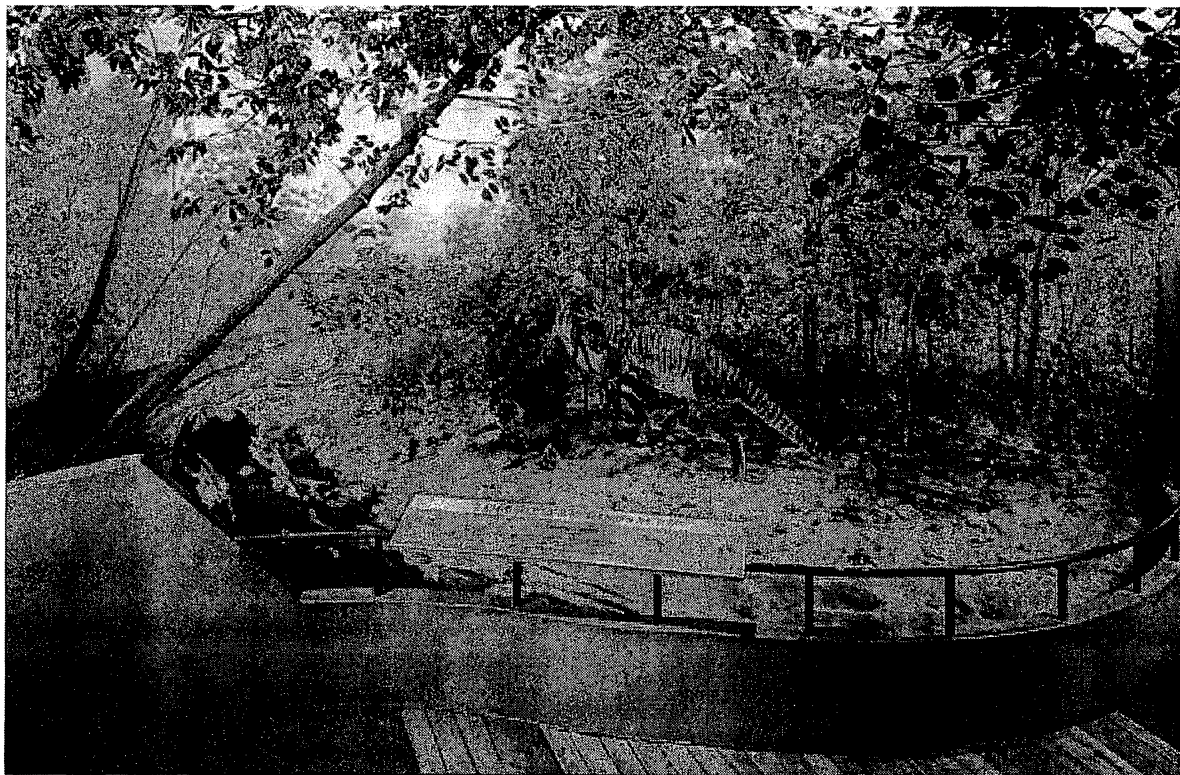

Figure 8. Diorama of the Cretaceous Hell Creek Formation
The goal of the Hell Creek diorama in *Prehistoric Journey* is to immerse the visitor in an accurate reconstruction of North Dakota as it was 66 million years ago (Fig. 8). The diorama is realistic enough that the visitor can momentarily suspend disbelief and time travel to a different place and time, one populated with accurately revived plants and animals (19).